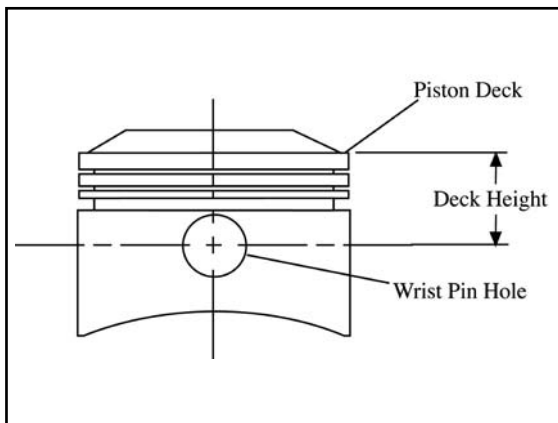

Figure 5
3. Note where piston deck (See Figure 5, piston deck diagram) is positioned in relationship to head gasket surface. Piston deck (flat located just above top compression ring groove), not dome, must be flush with or slightly below gasket surface.